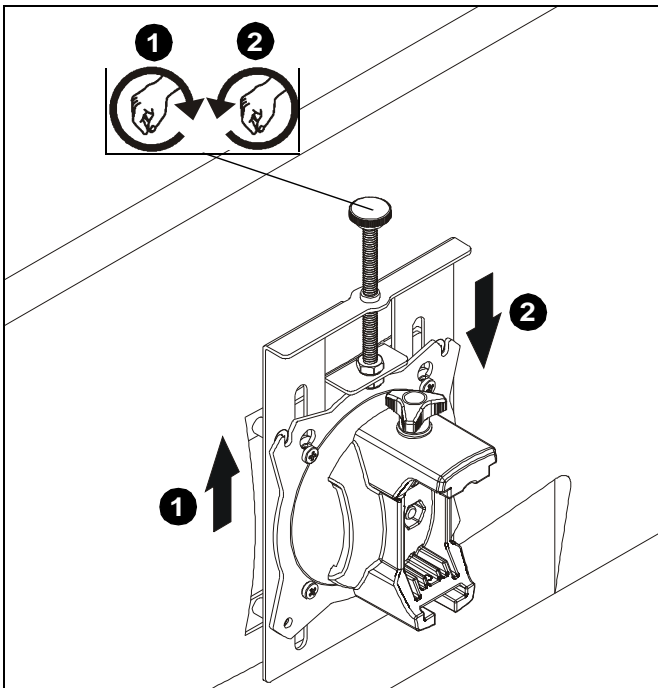

Figure 5
1. Turn height adjustment knob clockwise to raise display level. (See Figure 5)
2. Turn height adjustment knob counter-clockwise to lower display level. (See Figure 5)